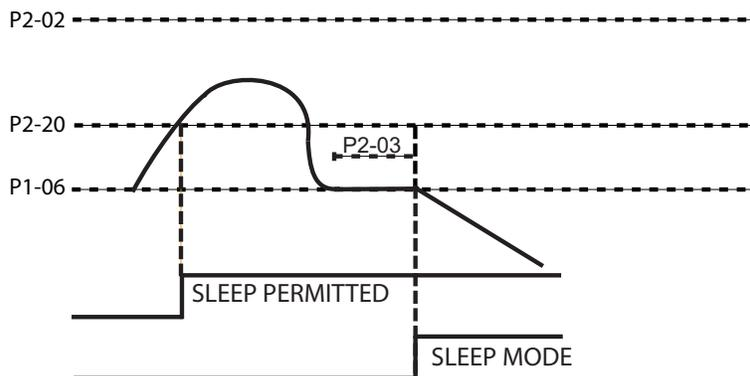

Figure 125.
- When P2-20 is greater than 0 and less than P2-02, the output frequency must be greater than Alternative Sleep Activation Level (P2-20). See Figure 125.